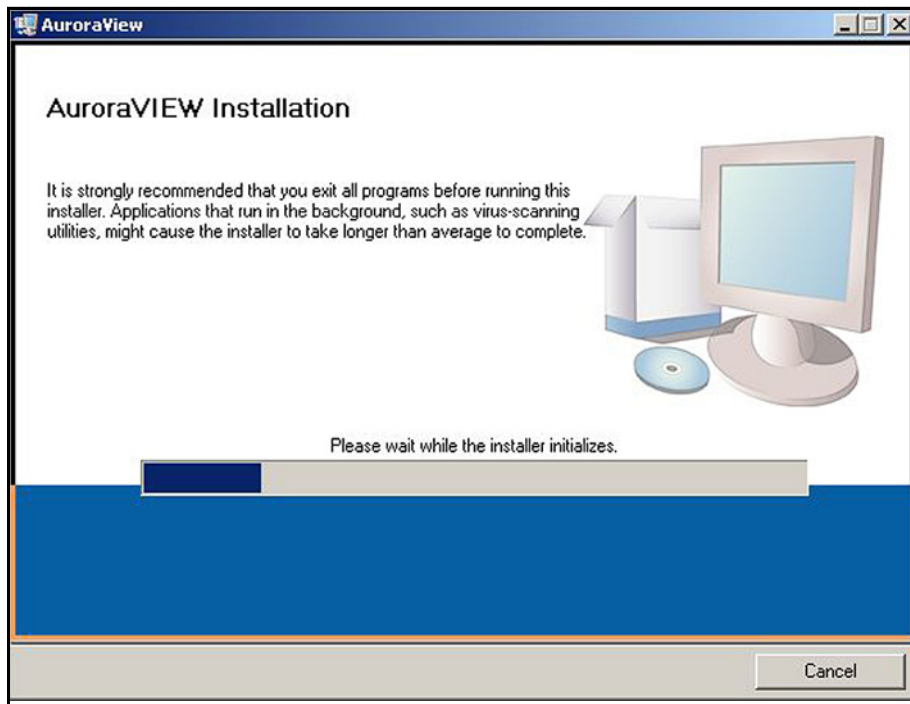

Figure 48: Installation Recommendation
4. Exit all other programs before running the installer (see *Figure 48* below).